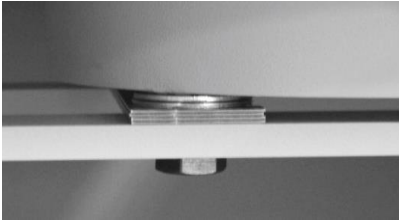

Figure 2.1. Shims
5. Shims (P/N 244-200-M327) are supplied and used to fill the gap between the bottom of the Sharps Shield and the top of the support bars (see Figure 2.1). Secure the shims using the 7/16" wrench, four 1/2"-13 x 1.50 Hex Head bolts (P/N C11217), and four 1/2" lock washers (P/N C08349).